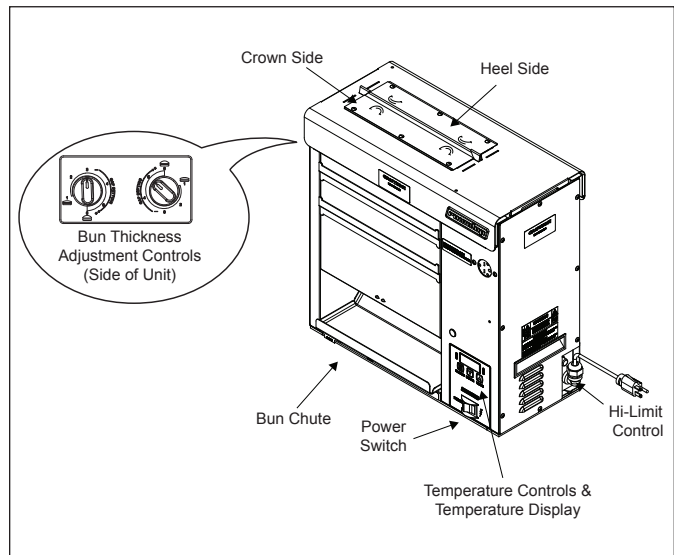

Figure 3. VCT-2010 Toaster
NOTE: The temperature display (Figure 3) flashes “LO” until the toaster reaches its preset operating temperature. When the toaster approaches the preset temperature of 570°F (299°C), “USE” appears in the temperature display and the unit is ready to toast buns. If “USE” does not appear in the window after approximately 30 minutes, contact your Authorized Service Agency.
3. Drop Crowns and Heels into the slot (Figure 3).
4. Toasted buns will drop out of the unit and down the Bun Chute (Figure 3) in approximately 18 seconds.